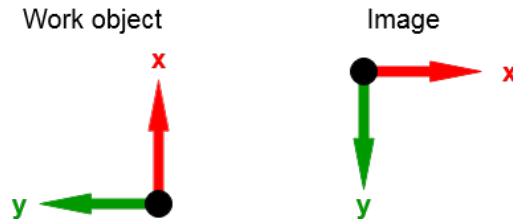

Figure 3: Coordinate systems for work object and image
Images in Python are usually represented in matrix form. This means that x increases as you go to the right and y increases as you go downwards, as illustrated in figure 3 below. It also means that the origin (0,0) is in the top left, not in the middle as you might be used to. The work object, however, has origin in the middle.
You must then transform the axes. For figure 3, the transformation would look like this:  $x \rightarrow y$ ,  $y \rightarrow x$ ,  $x \rightarrow -x$ ,  $y \rightarrow -y$ .
The position you've now created through the transformation and conversion is in relation to the camera. To actually pick up a puck, you will have to relate the position to the gripper. As previously mentioned, you will capture an image with the camera in front of the gripper, without any rotation. This means that the camera will be 55mm in front of the gripper. You must relate this to your coordinate system (for figure 3 this would be 55mm in the positive x-direction).
- Coordinate systems such as in figure 3
Next, apply the appropriate transformation. With coordinate systems such as in figure 3, the transformation yields a new puck position:  $(x, y) = (330, 540)$ .